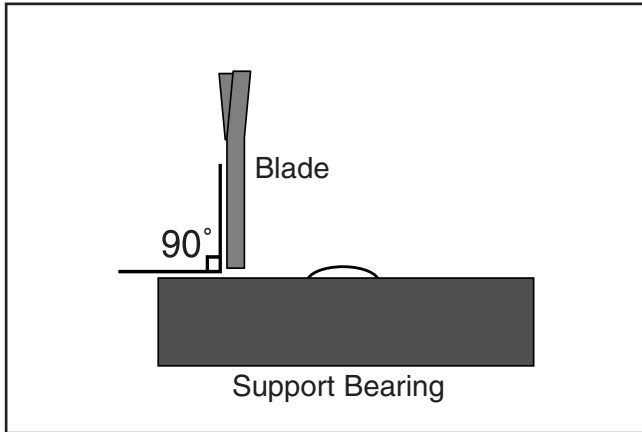

Figure 27. Illustration of blade set perpendicular (90°) to the support bearing face.
- Loosen guide block assembly cap screws and rotate blade guide assembly side to side until blade is perpendicular with face of support bearing, as illustrated in **Figure 27**.
5. Make sure blade is perpendicular to face of support bearing, as illustrated in **Figure 27**.